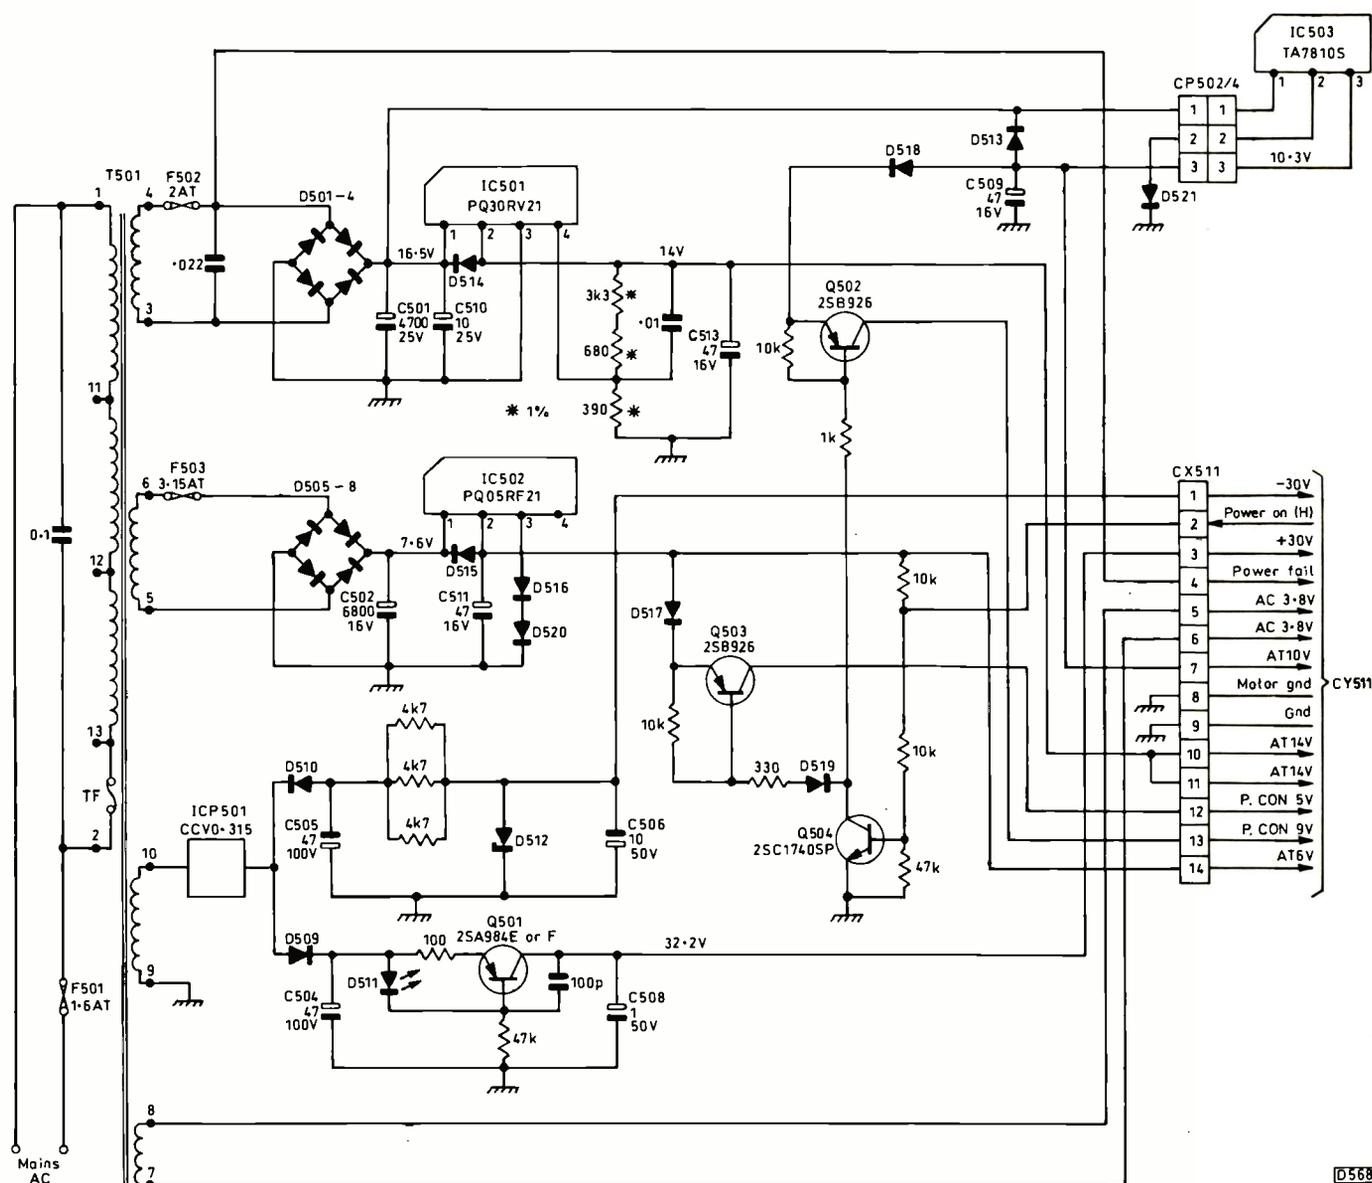

Fig. 1: The linear power supply circuit used in the Aiwa Model HVFX1500. See table below right for diode types.
Fig. 1 shows the power supply circuit used in Model HVFX1500. It's a straightforward linear arrangement.
**Tesco Tellys:** A connection blob is missing in Fig. 1. Q1's source, and the other components connected to this point, should also be connected to the line that links pin 4 of IC1, pin 5 of TR1 and the 'earthy' side of the mains bridge rectifier D1-4 (August issue, page 675).